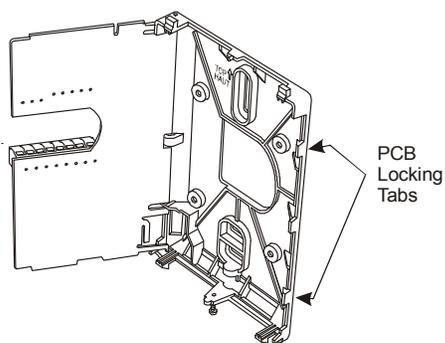

Figure 2: Opening the Thermostat Controller PCB
3. Carefully pull the locking tabs on the right side of the thermostat controller mounting base and unlock the Printed Circuit Board (PCB). Open the PCB to the left as illustrated in Figure 2.